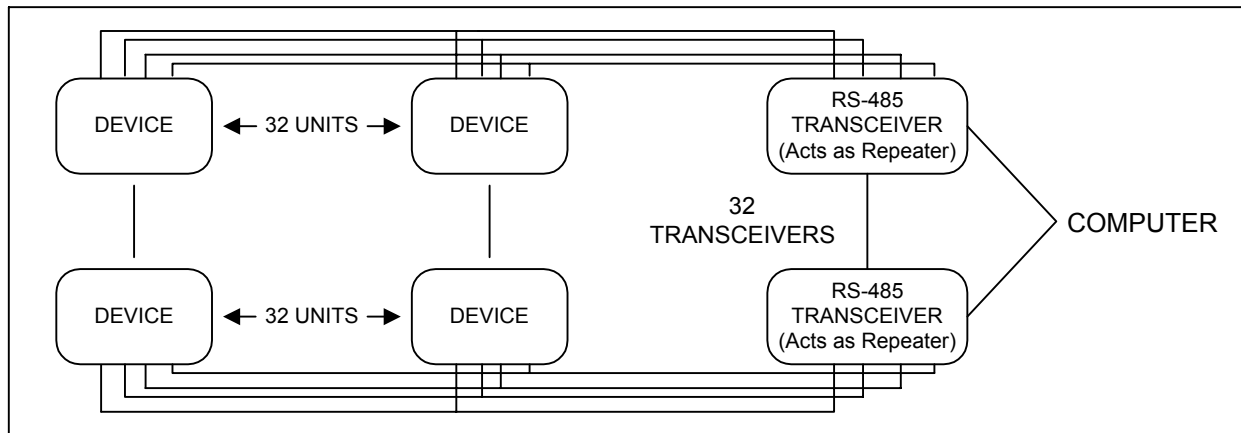

Figure 4.5: 4-Wire RS-485 Communication Installation Connection with Transponder
- In a four-wire connection, a maximum of 3600 instruments can be included in the same link (See Figure 4.5).